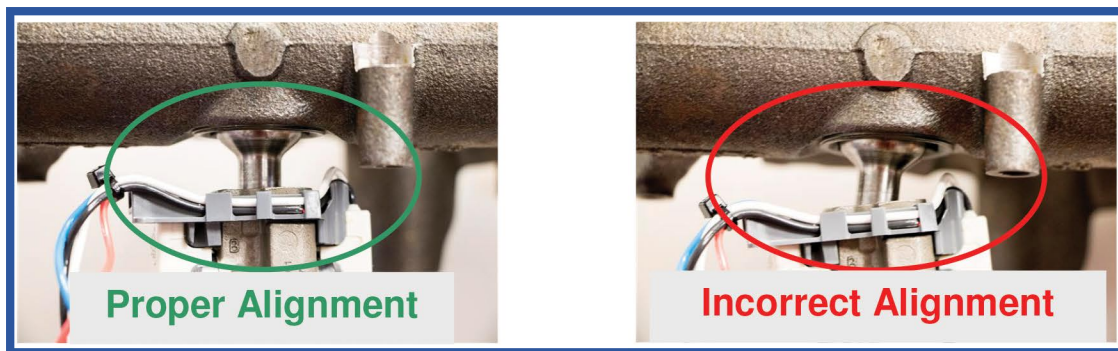

Figure 5
- Installation damage to D-Ring from misaligned Ball Tubes (Figure 5).